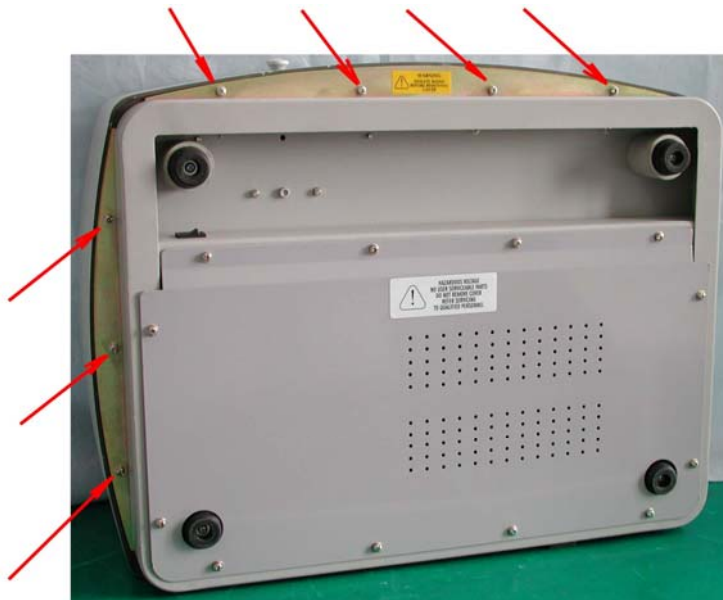

Fig A1
3. Remove the all screws around the sides of the spectrophotometer. See Fig A1